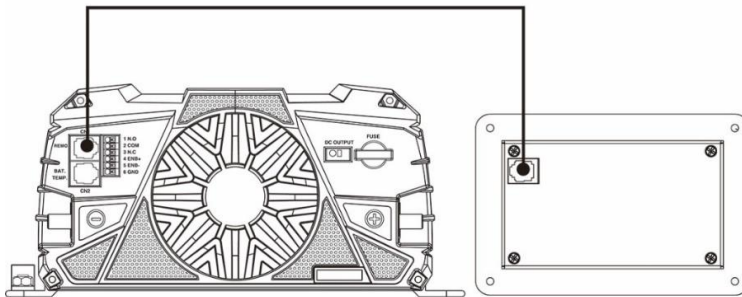

Figure 2. Connect the RJ11 cable
Step 4. Connect the supplied RJ11 cable to the back of the PowerCombi Remote Control and then connect to the remote port at the DC side of the Inverter/Charger. See Figure 2.